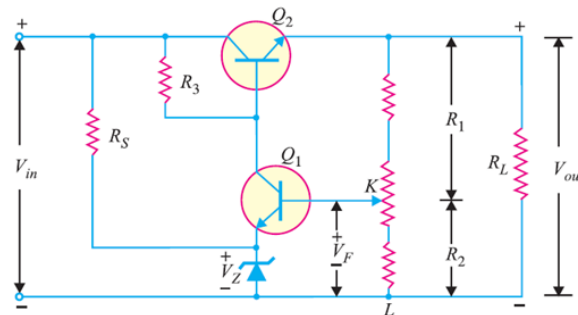

Figure A2
- A2. Show how the voltage regulator circuit shown in Figure A2 achieves a stable output: